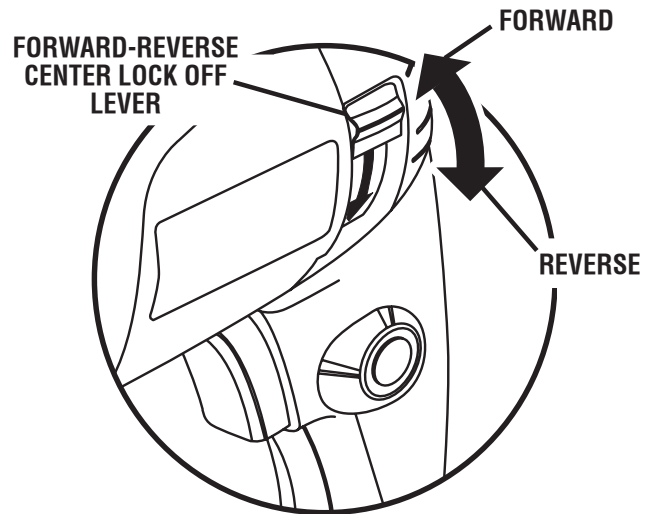

Fig. 7
See Figure 7.
- Check the direction of rotation lever for correct setting (forward or reverse). See Figure 7.